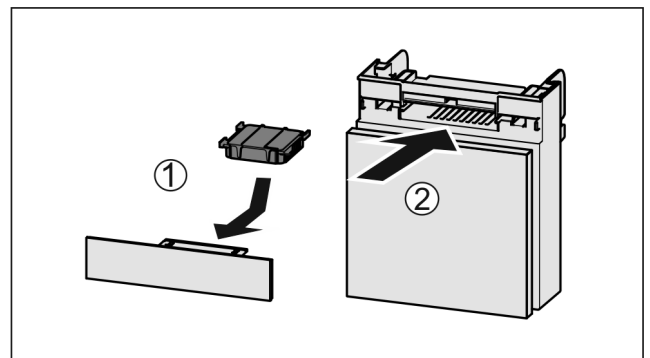

Fig. 130
- ▶ Insert the carbon filter as shown in the diagram Fig. 130 (1).
- ▶ Push the compartment in Fig. 130 (2).